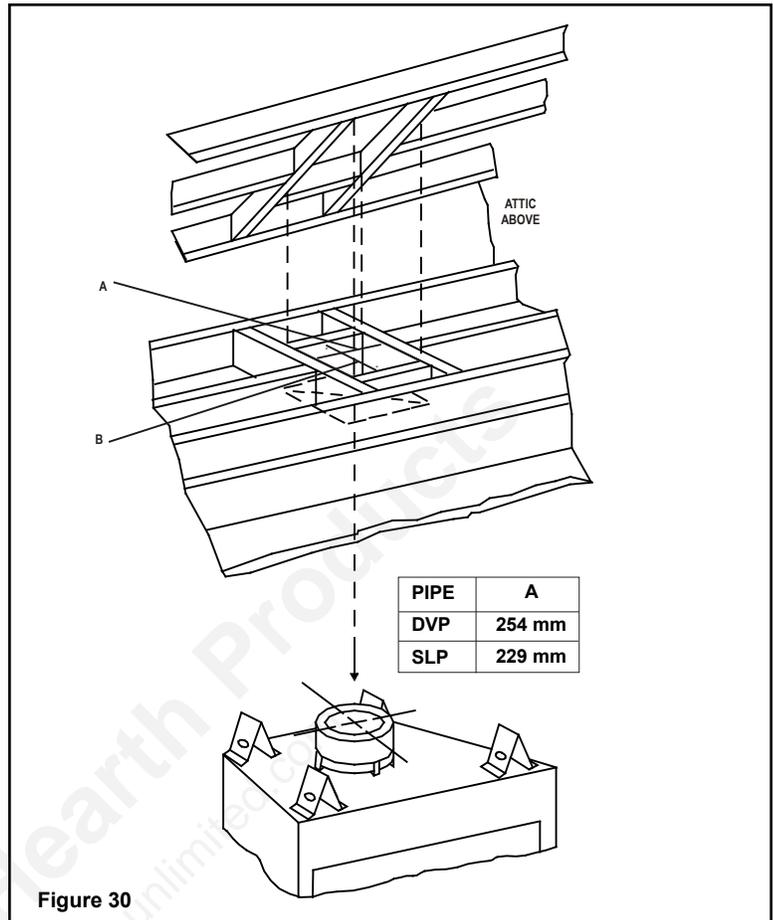

Figure 30
- Frame an opening 22.9 cm by 22.9 cm whenever the system penetrates a ceiling/floor (see Figure 30). A steeply slanted roof may require an enlarged opening size in order to maintain proper flue pipe clearances.